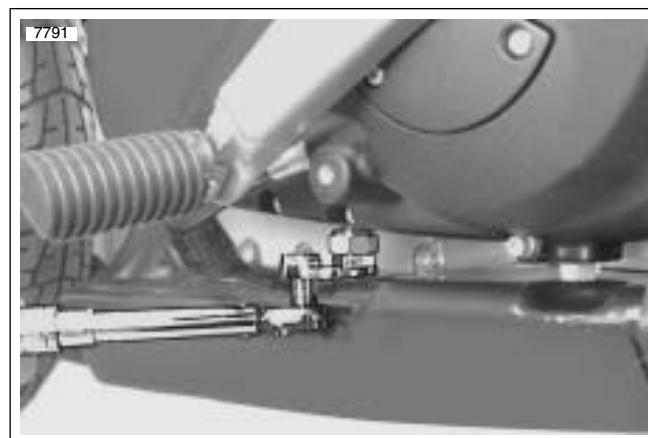

Figure 1-24. Tightening Chain Limiting Screw
3. See Figure 1-24. Tighten chain limiting screw to 24 in-lbs (2.7 Nm).